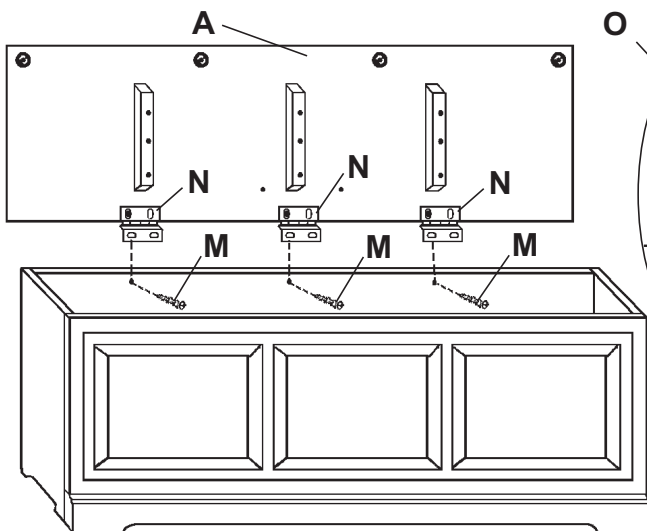

Fig. 4.
4. Hold the Top (A) so the bent edge of the Hinges (N) hang over the inside edge of the back. Align the hinges over the predrilled holes in the back. Insert a #6 x 3/4" Brass Flat Head Screw (M) in each of the left holes. **DO NOT COMPLETELY TIGHTEN YET.** Lower the top to make sure the bumpers make solid contact. Adjust top as necessary and tighten screws. Now insert and fasten the other two screws in each hinge. See Figure 4.